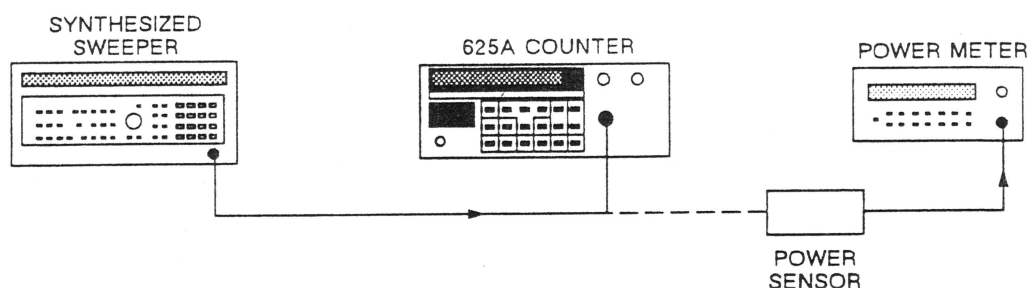

Figure 8-4. Band 3 Range and Sensitivity Test Setup.
1. Connect equipment as shown in Figure 8-4.